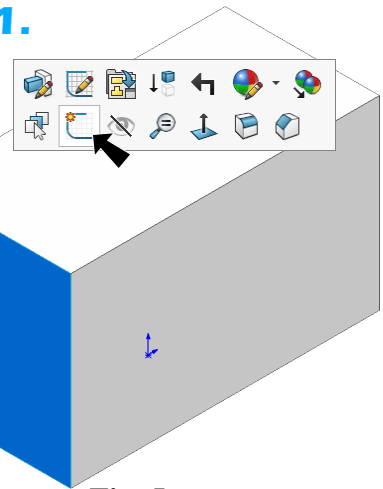

Fig. 5
Step 2. Rotate view to **left side face**, Fig. 5. To rotate view, **Ctrl-Shift** click the **Y axis** of the **Reference Triad**
Step 3. Click the **left side face** and click **Sketch**  on the context toolbar, Fig. 5.